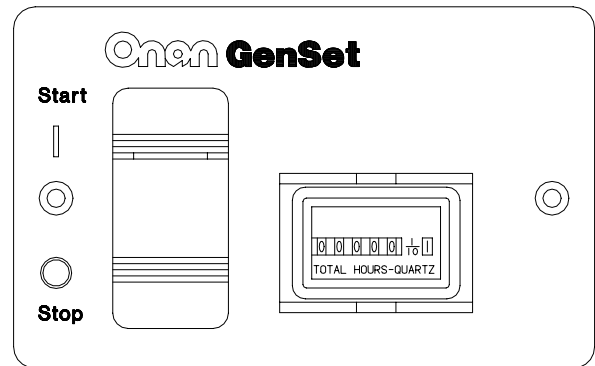

FIGURE 7. START/STOP SWITCH WITH TIME METER
- Remote panel with start/stop switch, indicator lamp, and running (elapsed) time meter (see Figure 7).